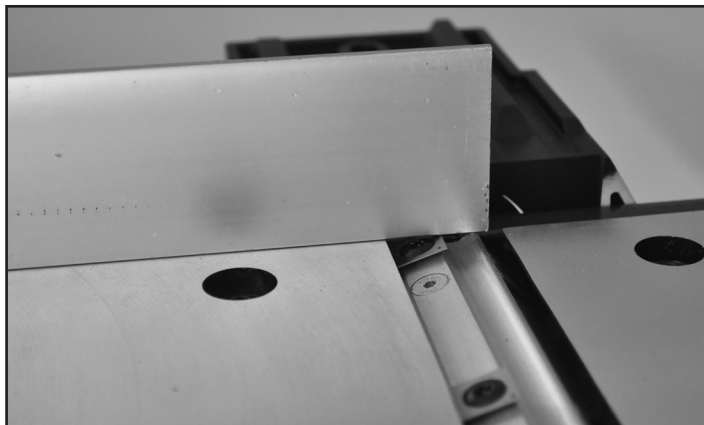

FIG. 24
3. With a long metal straight edge, place it lengthwise along the outfeed table so that it extends onto the insert cutter at its highest rotation point. Check the measurement on the insert cutter to the far right and then far left on the cutterhead. FIG. 24.